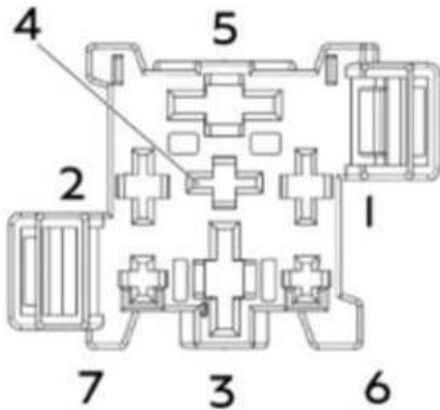

Figure 3
2) Referring to Figure 3 - Once removed conduct a visual check of all carrier terminals, check for the following: